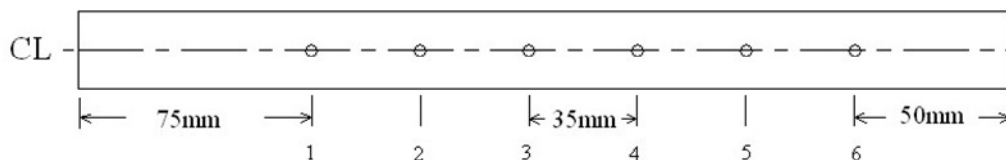

Figure 1. 25 mm x 300 mm test strip with 6 welds at 35 mm spacing
- (3) Using 25 mm x 300 mm test strips, make six welds on the centerline approximately 35 mm–50 mm apart, as shown in Figure 1.